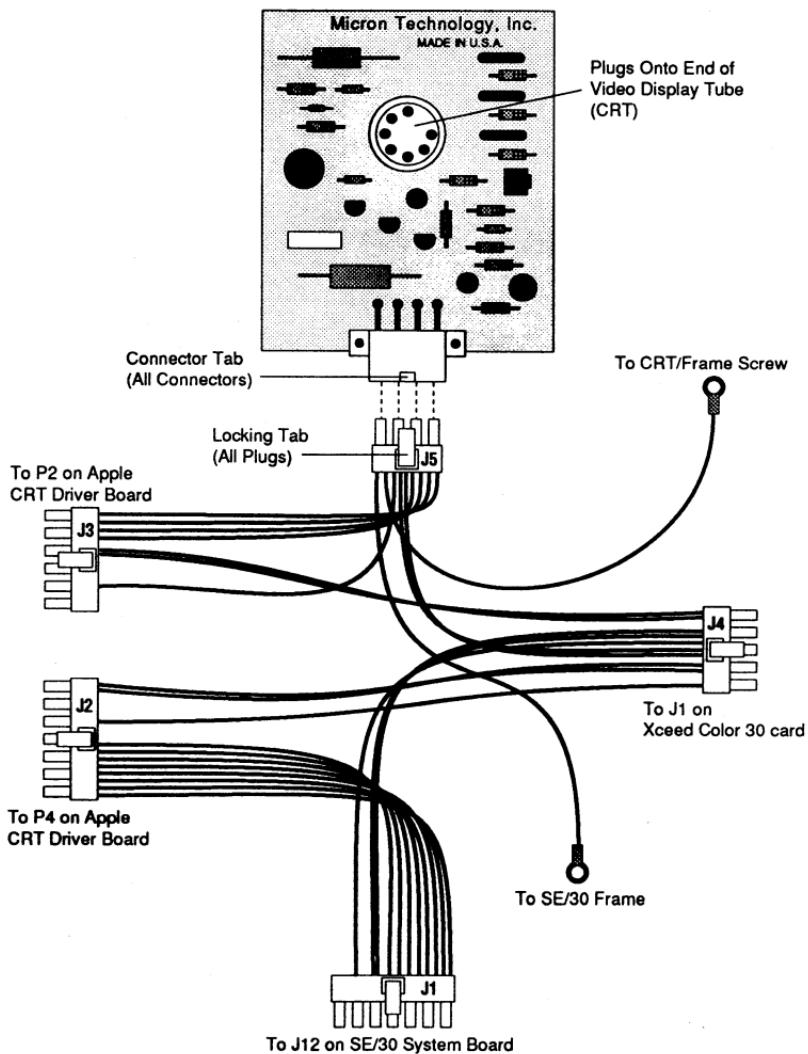
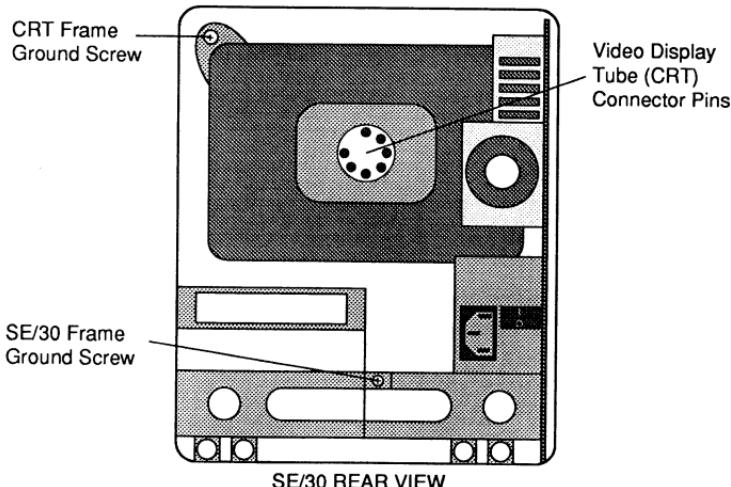

Figure 2-4
Figure 2-6
The Micron Xceed Gray-Scale 30 video adapter and cable assembly is shown in Figure 2-4. Note that the plugs on the cable assembly are all numbered (J1-J5) for easy reference. All the connectors have tabs and all the plugs have locking tabs providing for "one way only" installation.
5. Connect the two ground wires from the cable assembly shown in Figure 2-4 to their respective ground screws on the SE/30 frame as shown in Figure 2-6. You will need to completely remove the ground screws and reinsert them through the ground wire connector "loops" to insure a proper connection. *It is very important to connect these ground wires properly and securely since they can provide protection against serious electrical shocks.*
6. Insert cable-assembly plug J5 into the connector on the Gray-Scale 30 connector card and carefully plug the card straight-on to the connector pins located at the back end of the CRT as shown in Figure 2-6.